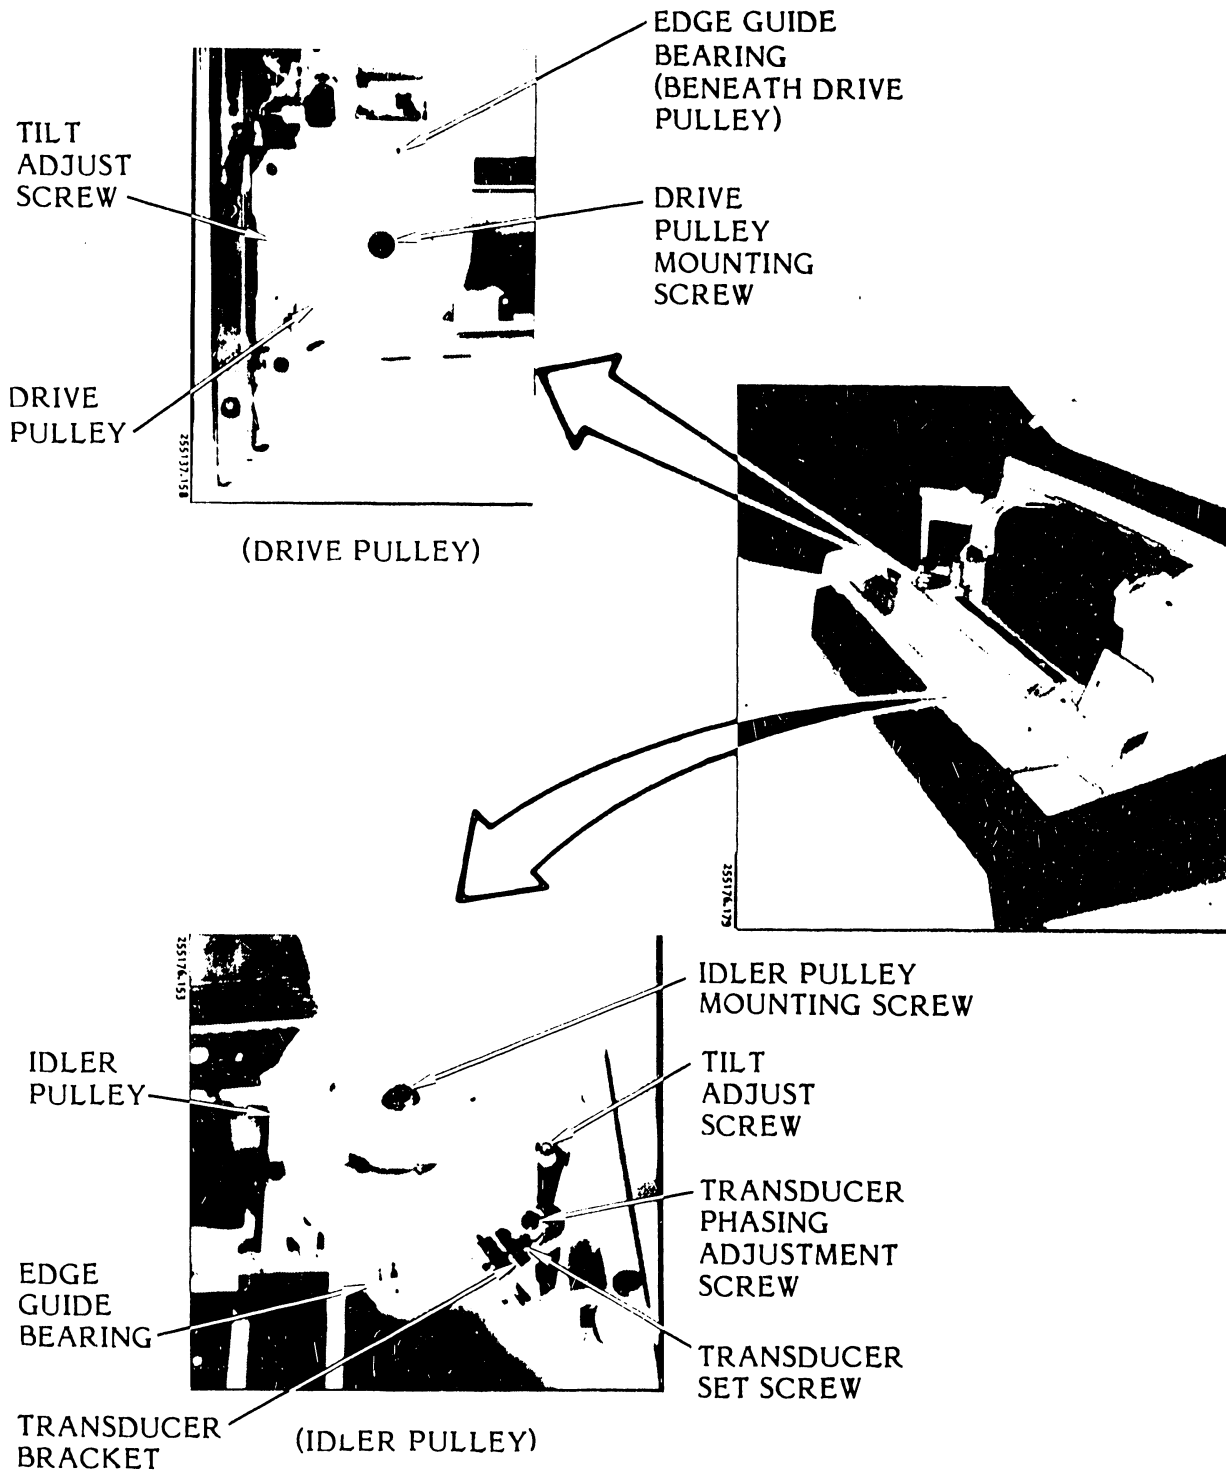

Figure 3-34. Posidrive Band Tracking Adjustment
3.6.3 Band Tracking Adjustment (Figures 3-34, 3-35 and 3-36)
- a. Band Motor with Posidrive Belt and Roller Arm (Figure 3-34)